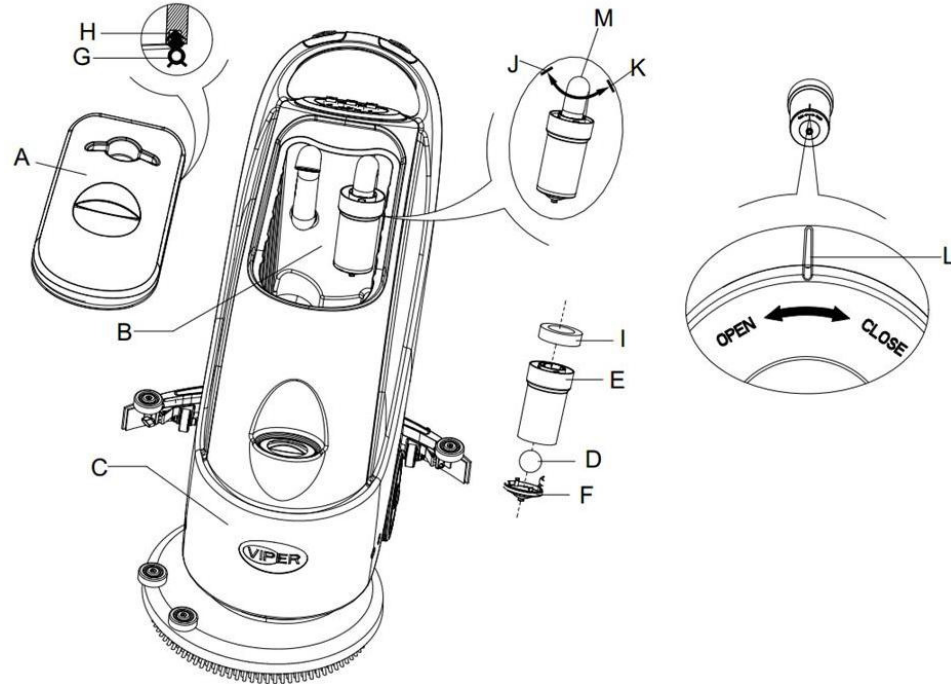

Figure 16
2. Press the power switch (41) to the position "O" to turn off the machine.
3. Open recovery tank lid (A, Figure 16), and take off the float device (36) from recovery tank.
4. Use pure water to clean recovery tank lid (A), the tank (B and C), and the float filter support frame (E). Through the Recovery tube (15), drain all the water from the water tank.
5. If necessary, following the symbols "Open" and "Close" as shown in Figure 16, open the bottom lid (F) of the float filter and clean the float (D), float filter support frame (E), and the filter sponge (I). After cleaning, fix the float onto the float filter support frame (E), and then align the mark groove (L) of the bottom lid (F) of the float filter with the mark groove (L) of the float filter support frame (E). Turn the bottom lid (F) of the float filter tight, and fix the filter sponge (I) onto the float filter support frame (E), and then onto the Vacuum tube (M).
6. Check the soundness of the sealing ring (G) of the water tank lid.
**The sealing strip (G) of the water tank makes the water tank create a vacuum. It must be completely sealed to be able to effectively suck the wastewater from the floor.**
If necessary, the sealing strip of the water tank (G) may be taken out from the groove (H) and changed. When assembling a new water tank sealing strip, as shown in Figure 16 below, install the connector to the middle section of the rear part.
7. Check if the receiving surface of the sealing strip (G) is intact and seals adequately.
8. Close recovery tank lid (A).